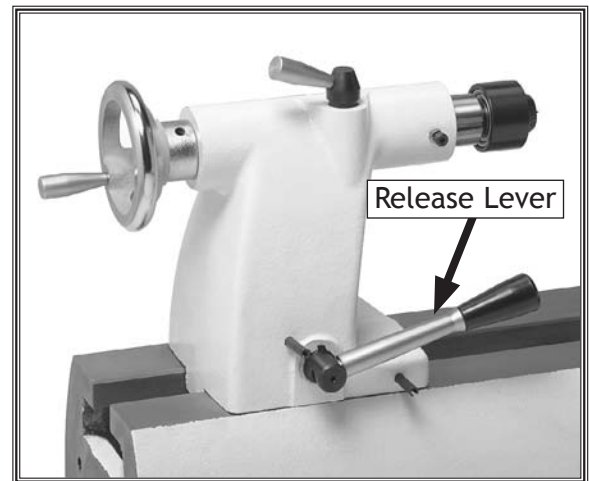

Figure 8. Tailstock controls.
1. Loosen the release lever and move the tailstock to the desired position (Figure 8).